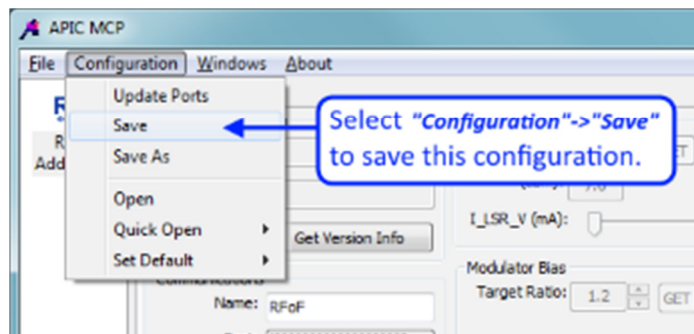

Figure 12 - Saving the GUI Configuration
7. Optionally, you can choose to save the MCP GUI configuration for later restarts by Selecting "Configuration" -> "Save" from the Menu bar, as illustrated in Figure 12.